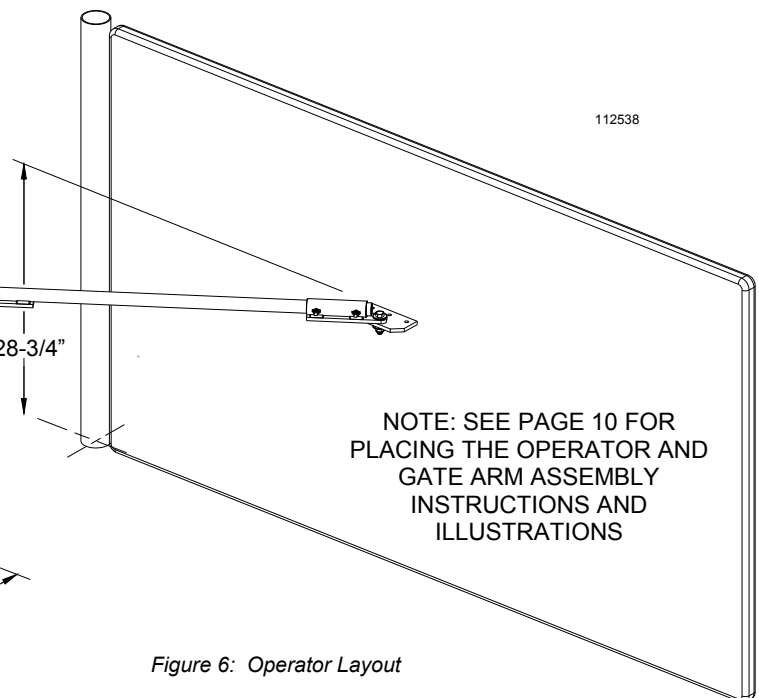
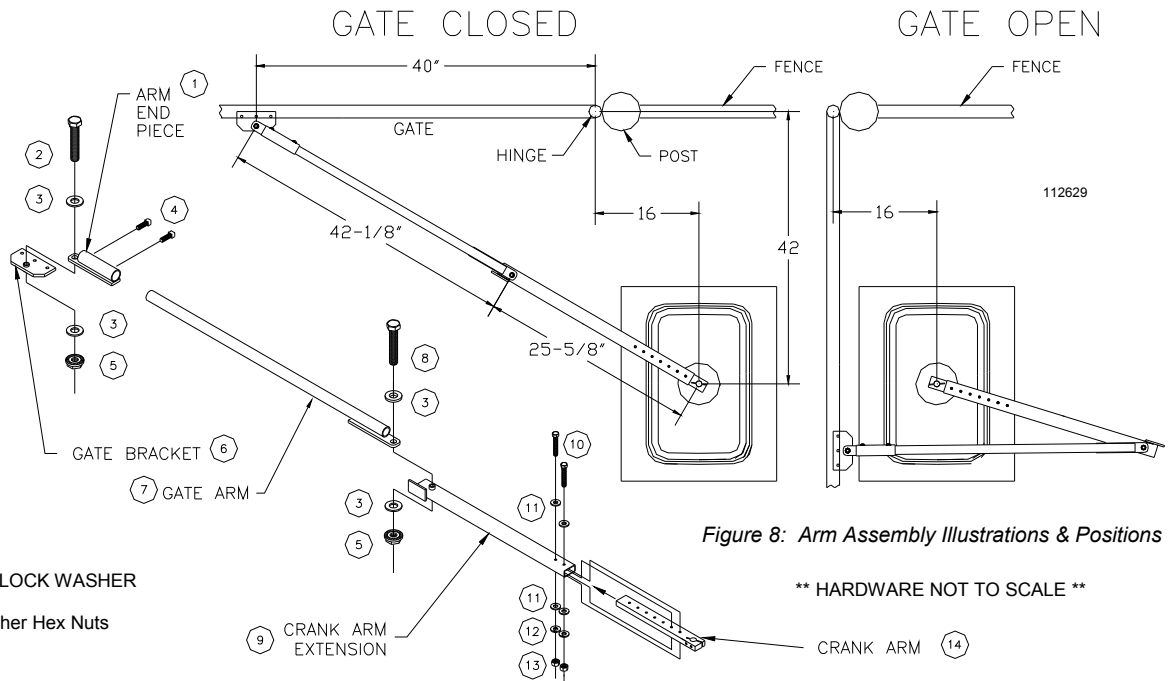
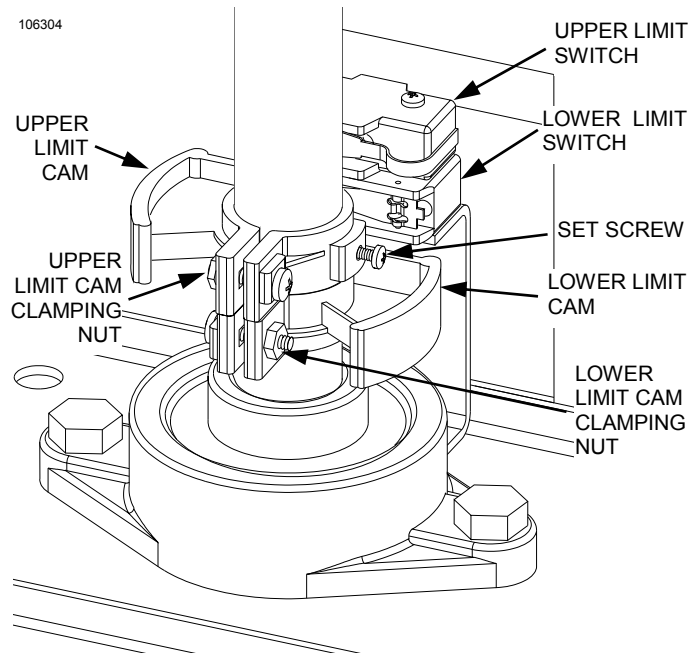

Figure 6: Operator Layout
Figure 8: Arm Assembly Illustrations & Positions
Figure 11: Limit Switches
The recommended procedure for attaching the GS6000 to the concrete pad is first to locate and drill the hole for the mounting hole nearest to the gate post. Locate this hole by referring to Figures 5 and 6 (Page 6) and Figure 8 (Page 10). Figure 5 features an aerial view of the operator footprint and concrete pad outline for a *left*-hand mounted GS6000 operator with gate. Figure 6 features an isometric view of a *left*-hand mounted GS6000 operator with gate. Figure 8 features an aerial view of a *right*-hand mounted GS6000 operator with gate and an isometric view of the gate arm assembly in a exploded fashion. All dimensions are applicable to either the left-hand or right-hand views, transpose them as necessary to your particular installation. **Ensure the operator is placed on the concrete pad such that the center of the output shaft is 42" vertically and 16" horizontally away from the gate center hinge point, as illustrated in Figure 5. These are the critical dimensions for this part of the installation.**
Temporarily locate the Gate Bracket on the gate with C-clamps or by tack welding. The gate bracket is installed to the gate so the gate arm will be level when connected to the GS6000 output shaft. See Figure 6 on page 6 and Figure 8 on page 10 for positioning of the Gate Bracket. The 28-3/4" dimension as referenced in Figure 6 assumes a pad height of 3" above ground. Adjust the placement of the gate bracket on the gate at such a height that corresponds with the height of the concrete pad (add to the 28-3/4" dimension if the pad is higher than 3", subtract if lower. **The 40" horizontal dimension referenced in Figure 8 and the 28-3/4" dimension referenced in Figure 6 are the critical dimensions for this part of the installation.** Again this is a temporary placement, the gate bracket will be permanently mounted after the gate arm is assembled and installed. Move the gate to it's fully closed position and temporarily immobilize the gate in that position.
As shown in Figure 8, attach the Crank Arm Extension to the Crank Arm with the (2) 1/4-20 x 1-1/2" long bolts, (4) 1/4 internal tooth lock washers, and (2) 1/4-20 keps washer hex nuts, (Items 9 through 13) provided. For a standard installation use the two holes
Assemble the gate arm as shown in Figure 8, sliding the arm end piece onto the end of the arm tube and tightening the 5/16-18 x 5/8 long square head set screws. Again as a matter of note, the gate arm can be shortened (if necessary due to the gate bracket placement, etc.) by cutting off a length from the tube. Attach the gate arm to the crank arm extension and the gate bracket using the 1/2-13 x 2 bolt (at gate bracket), the 1/2-13 x 2-3/4 bolt (at the crank arm extension), the four 1/2 flat washers and two 1/2-13 nylock hex nuts as shown in Figure 8. The gate arm is now fully assembled with a total length of approximately 67-3/4"
With the Gate still immobilized in the closed position, the "elbow" will be up against the closed position stop on the Crank Arm Extension. At this time adjust the placement of the gate bracket and/or the length of the crank arm/extension or gate arm to ensure when the gate is fully closed the arm is in a straight and locked position (from output shaft to gate bracket) as shown in the left illustration in Figure 8.
Move the Gate to the fully open, 90 degree position as shown in the right illustration in Figure 8. The crank arm/extension should fold back over the arm as shown. If it doesn't, some adjustment of the gate bracket or operator position may be necessary. With the gate in the fully open position, adjust the stop pall on the sprocket against the stop on the GS6000 frame and tighten the set screw. Open and close the gate several times until you are satisfied that the arm position is correct.
If this is a right hand (RH) installation (as shown in Fig. 8) the upper switch is the Close limit switch, if this is a left hand (LH) mounted operator (as shown in Fig. 6) the lower switch is the Close limit switch. Referring to Fig. 11, loosen the clamping screw and nut and the set screw on the Limit Switch Cam for the appropriate switch. Rotate the cam on the output shaft (clockwise as you look at the shaft from the control box if RH mounted, CCW if LH mounted) until it engages the Limit Switch and an audible "click" is heard. If resetting and the operator is under power the LED indicator on the control board can be used as an additional indicator that the switch has activated. Repeat this several times until you are confident that the position of the cam is such that the Limit Switch is just closed.
Remove the temporary immobilization from the gate and open the gate to it's **FULLY OPEN** position. Repeat the setting procedure for the remaining Limit Switch and Cam, ensuring to rotate the Limit Cam in the opposite direction from the rotation in the previous paragraph, also see Figure 11.
The GS6000 Control panel is configured at the factory for right hand operation - where the operator is mounted to the right of the gate leaf as you look at the installation from the inside (secured side, as shown in Fig. 8).
operator. For this installation, one operator must be mounted and configured for Left Hand operation and the other mounted and configured for Right Hand operation. For configuration see paragraph directly preceding, for an illustration of LH mounting see Fig. 6, page 6 and for an illustration of RH mounting see Fig. 8, page 10.